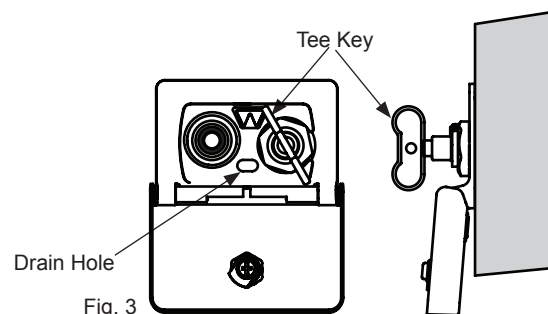

Fig. 3
6. Install hydrant with top of head in the horizontal and level position. Fig. 3 *Do not install in vertical position.*
OPERATING INSTRUCTIONS: Fig. 3